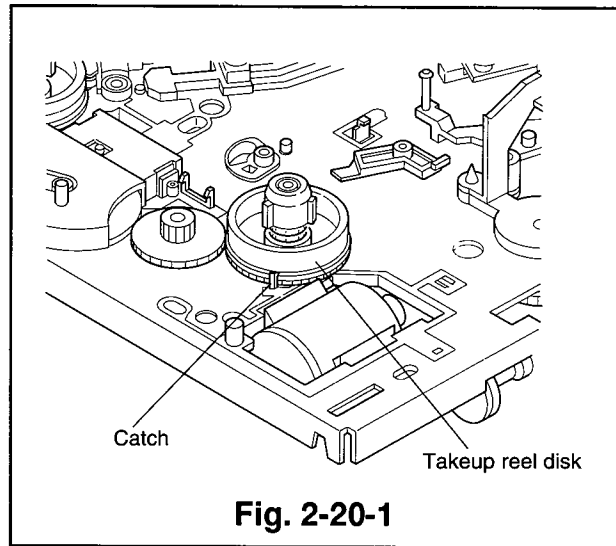

Fig. 2-20-1
- ① Remove the cassette housing. (Refer to Para. 2-1 for the removal method.)
- ② Remove the sub brake(SP) and the sub spring(SP). (Refer to Para. 2-14 for the removal method.)
- ③ Remove the sub off lever, the sub brake(TU), and the sub spring(TU). (Refer to Para. 2-16 for the removal method.)
- ④ Unfasten the catch shown in Fig. 2-20-1 and raise the takeup reel disk upward to remove it from the shaft.